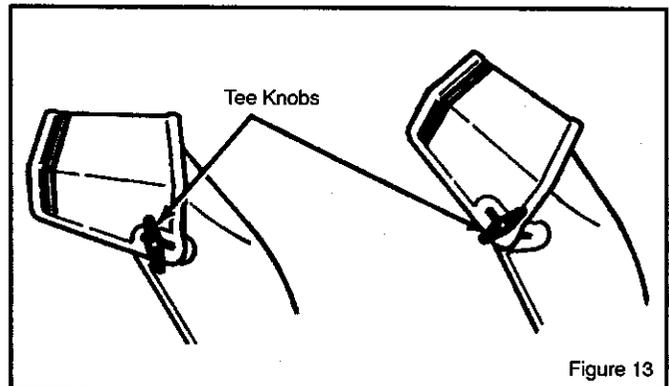

Figure 13
2. Adjust snow chute deflector. Loosen wing nut on the side of the snow chute and raise chute deflector for more distance. Tighten wing nut. (see Figure 13).